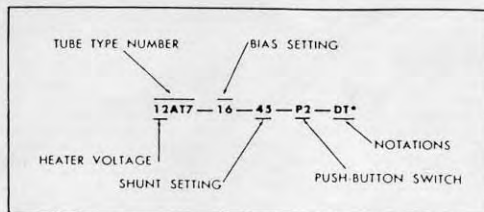

Figure 2. Explanation of Typical Tube Data Line
1. Select the socket on the panel which corresponds to the type number of the tube to be tested (see Fig. 2). **DO NOT INSERT THE TUBE AT THIS TIME.** The common tube types appear on the panel and additional types appear in the Tube Test Data Book.
3. All numbers appearing before the first letter of the tube type indicate the nominal heater voltage for the tube to be tested. In the example of Fig. 2, the nominal heater voltage is 12; therefore, the HEATER control should be rotated until the knob points to the number closest to 12. In this case, it is 12.6.
1. Insert the tube into the socket directly above the data line corresponding to the tube type number. In the example of Fig. 2 it is socket #27.
Check for letter combinations or symbols at the of the tube data line being used. In figure 2, for example, the notation is DT. Following is an explanation of the notations to be found on tube data lines:
5. BIAS setting is the number following the tube type number in the data line (see Fig. 2 for example) and SHUNT setting is the number after bias. Rotate these BIAS and SHUNT control knobs to the indicated settings.